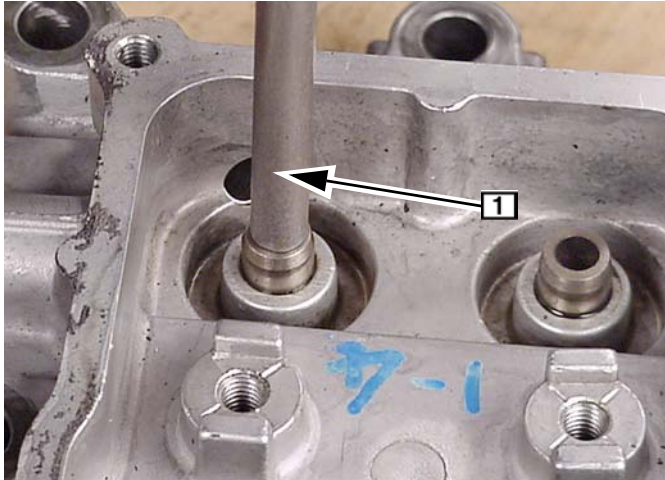

Fig. 84
1. Press out old valve guide using bushing driver, Tool #19367 **1**, Fig. 84.